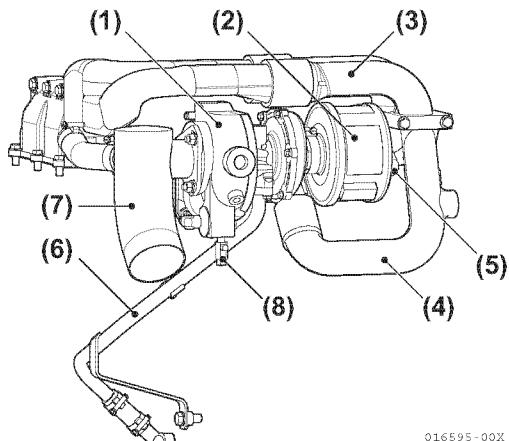

Figure 9-15
2. Install the turbocharger with a new gasket (**Figure 9-15, (1)**). Tighten nuts to 22.5 - 28.5 N·m (199-252 lb-in.)
3. Instal air filter (**Figure 9-15, (2)**).
4. Connect the intake pipe (**Figure 9-15, (3),(4)**) and tighten all clamps and bolts securely.
5. Connect lubricating oil lines (**Figure 9-15, (5), (6)**) and tighten all bolts securely.
6. Connect the mixing elbow (**Figure 9-15, (7)**) and seawater drain pipe (**Figure 9-15, (8)**). Tighten all clamps and bolts securely.